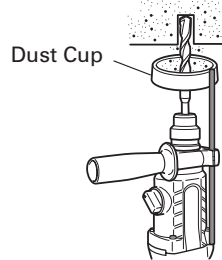
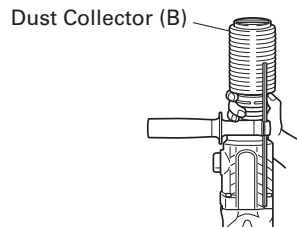

Fig. 4
Fig. 5
7. Installation of dust cup or dust collector (B) (Optional accessories) (Fig. 4, Fig. 5)
Use the dust cup by attaching to the drill bit as shown in Fig. 4.
When using dust collector (B), insert dust collector (B) from the tip of the bit by aligning it to the groove on the grip (Fig. 5)